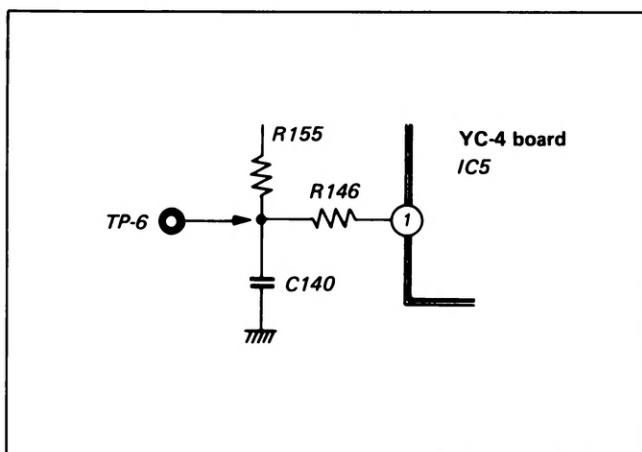

Fig. 4-38. Measurement point
- (1) Supply the color bar signal and set up the RECORD mode.
- (2) Insert a capacitor of 47 μ F/16V between the Q4 base and earth.
- (3) Connect the oscilloscope to TP6 shown in Fig. 4-38.